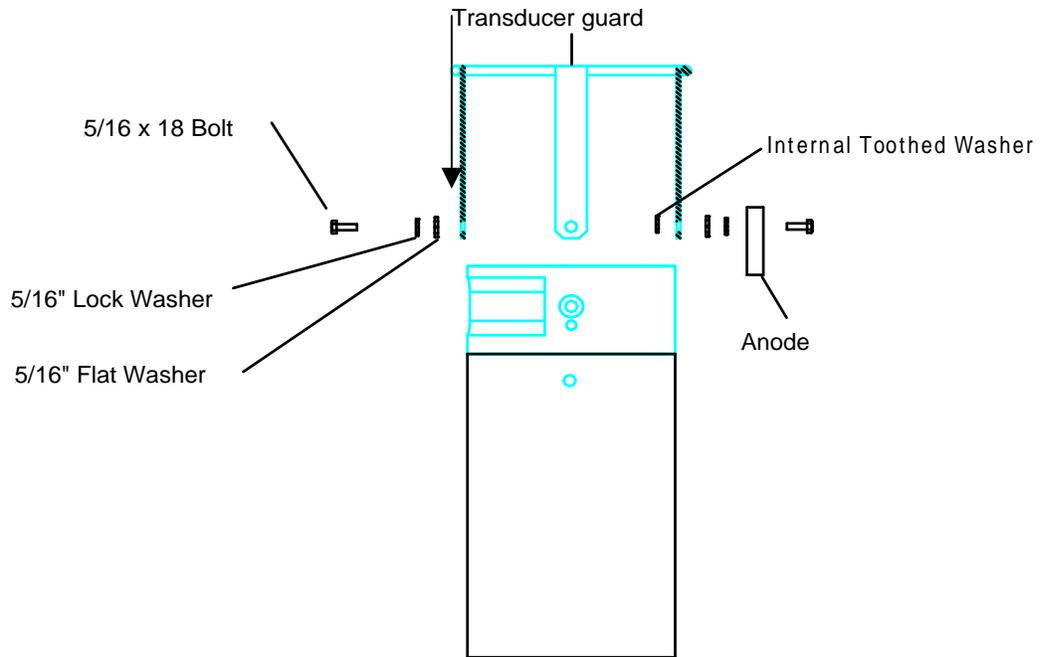

Figure 6
A single anode is placed on the IPS for corrosion protection. The anode can be arbitrarily placed in any hole configuration on the IPS4 transducer guard. An example of a typical anode installation is shown in Figure 6.
The anode is held in place by a 5/16" x 18 stainless bolt. An internal toothed washer is added to the back side of the transducer guard to assure proper electrical contact with the end cap and pressure case. Figure 6 depicts how the anode attaches to the case. Stainless Lock washers and flat washers are added to the bolts to secure them to the chassis.
All of the bolts are tightened into place and an impedance test is performed. Use a multi-meter to determine if there is any resistance between the bolt, sensor guard and anode. If there is a large resistance between these points, a proper connection has not been made and the anodes and washers must be repositioned. See Figure 6 for correct anode positions.
- The pressure case needs to be properly secured (see section 2.5 – Closing the Pressure Case). A sacrificial anode should be fastened to the instrument and, as required to the mooring system, to ensure adequate corrosion protection. A single anode should be bolted to the upper end of the IPS4 case, (Figure 6 & 7). Optionally, an additional anode can be fastened to the bottom end of the IPS-4 in the threaded hole; otherwise, this threaded hole should be filled with silicone grease.